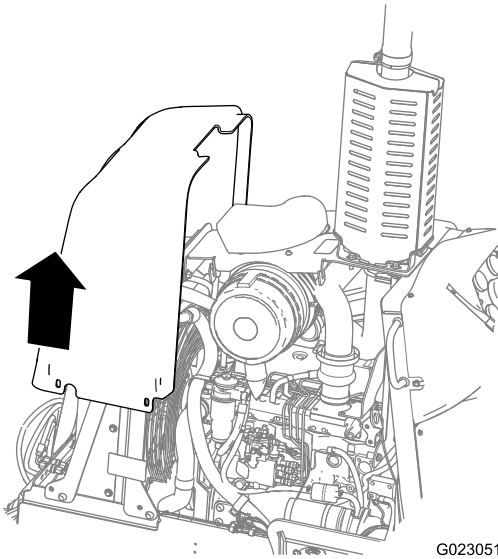

Figure 40
4. Lift the nose panel up and off the machine (Figure 40).
2. Lower the nose panel down and onto the machine (Figure 40).